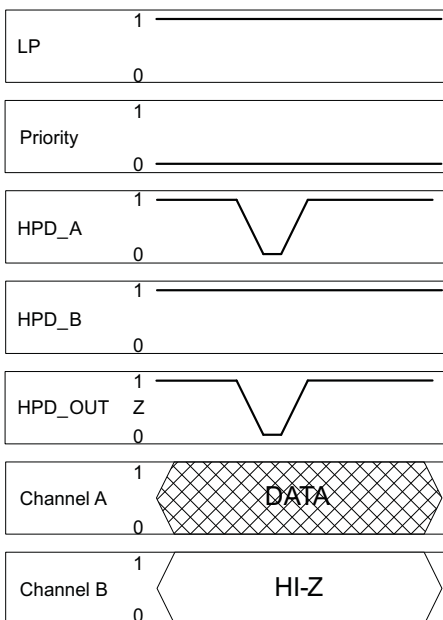

Figure 41.
- Case two: In this case both HPD inputs are initially HIGH and the selected port has been determined by the state of the priority pin. The HPD output logic state follows the state of the selected HPD input. If the HPD input pulses LOW, the HPD output to the source also pulses LOW for the same duration of time, again with a slight delay (see Figure 41). If the duration of the LOW pulse exceeds $t_{T2(HPD)}$, the device assumes that an unplug event has occurred and the other port is selected (see Figure 42). The case in